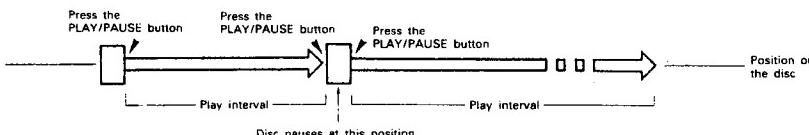

Figure 14
- The steps through which disc play is performed when the PLAY/PAUSE and STDBY/CUE buttons are pressed are described with the aid of the following illustrations in Figures 14 through 16.
Pressing the PLAY/PAUSE button starts the disc play, the advancement of which is illustrated by the arrows of Figure 14. Pressing the PLAY/PAUSE button again during disc play causes the play operation to pause, and pressing this button once more causes the disc to be played again.